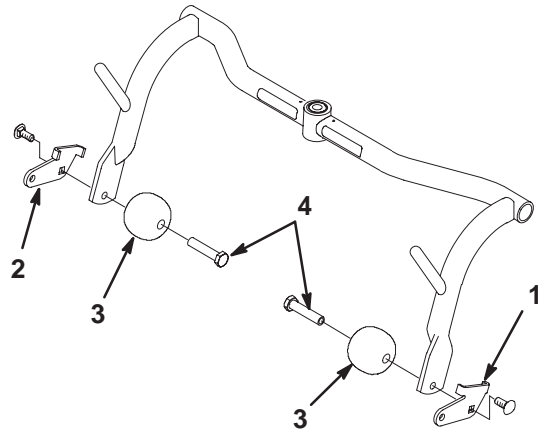

Figure 13
38. Mount the appropriate link bracket (right-hand or left-hand) and an anti-scalp roller to the end of each front carrier frame with a roller shaft and carriage screw. Position the brackets as shown in Figure 13.